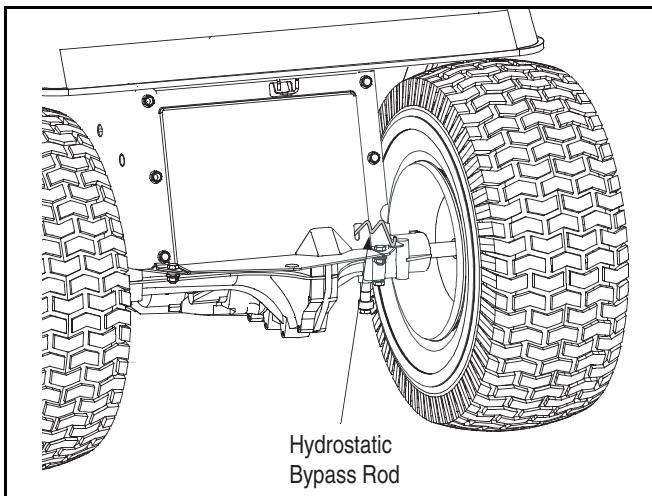

Figure 13
- Locate the hydrostatic bypass rod in the rear of the tractor. See Figure 13 .